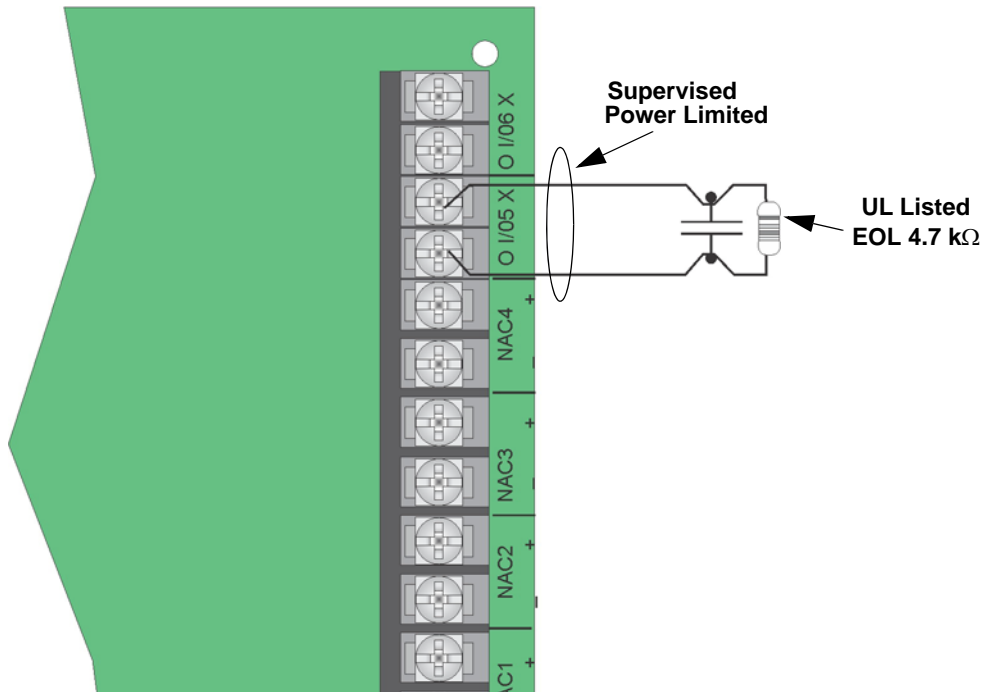

Figure 4-45 Class B Input Switches
1. Wire the Class B switch as shown in Figure 4-45.